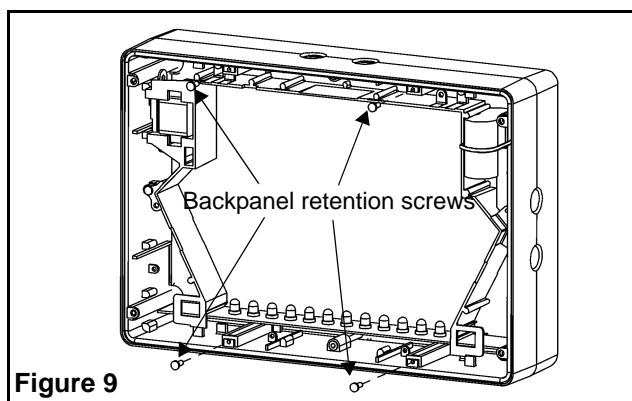

Figure 9
3. Install the four backpanel retention screws (see fig. 9)